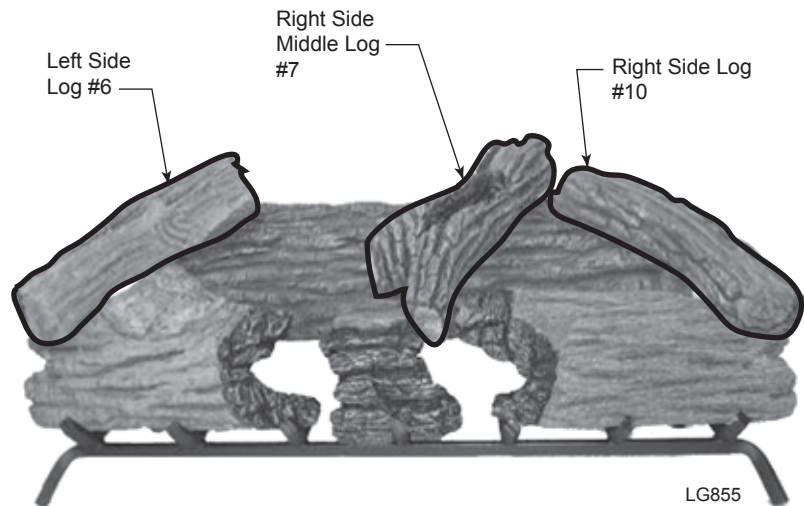

**Figure 37 -
6. Install left side log #6. *Figure 37*
7. Install right side middle log #7. *Figure 37*
8. Install right side log #10. *Figure 37*